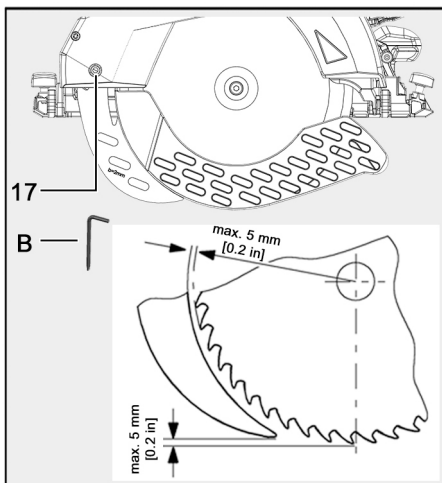

Fig. 9: Distance riving knife to saw blade
2. Using the Allen key (B) provided, turn the screw (17) **counterclockwise to loosen it**.
- Do not exceed the maximum distance to the saw blade (see Fig. 9).
4. Using the Allen key (B), turn the flange screw (17) **clockwise** to tighten it.